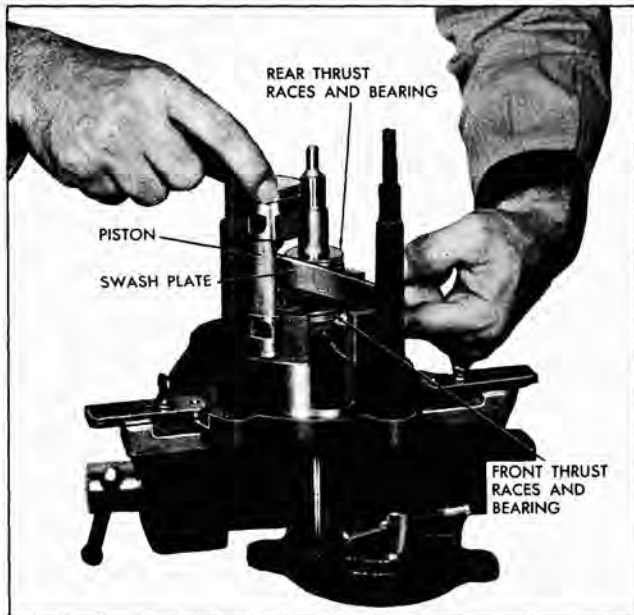

Fig. 5-81 Installing Piston with Balls and Front Shoe Only
10. Rotate shaft and swash plate until high point of swash plate is over piston cylinder bore, which had been identified as No. 1. Insert front end of No. 1 piston (notched end) in cylinder bore (toward the front of compressor) and at same time, place front ball and shoe and rear ball only over swash plate (Fig. 5-81).
ing pack tightly against swash plate hub while lifting shaft (Fig. 5-81).